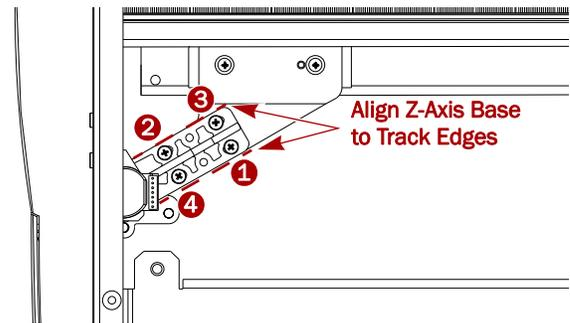

Figure 11. Align Front Z-Axis Bracket & Tighten Screws in Order
- b. Align both sides of the front Z-Axis base to the **edges** of the track plate (Figure 11).
- c. Using **four new M3x20mm screws** and **M3 cup washers**, secure the front Z-Axis to the track plate using around 6 lbs of torque. Tighten the screws in the order shown in Figure 11.